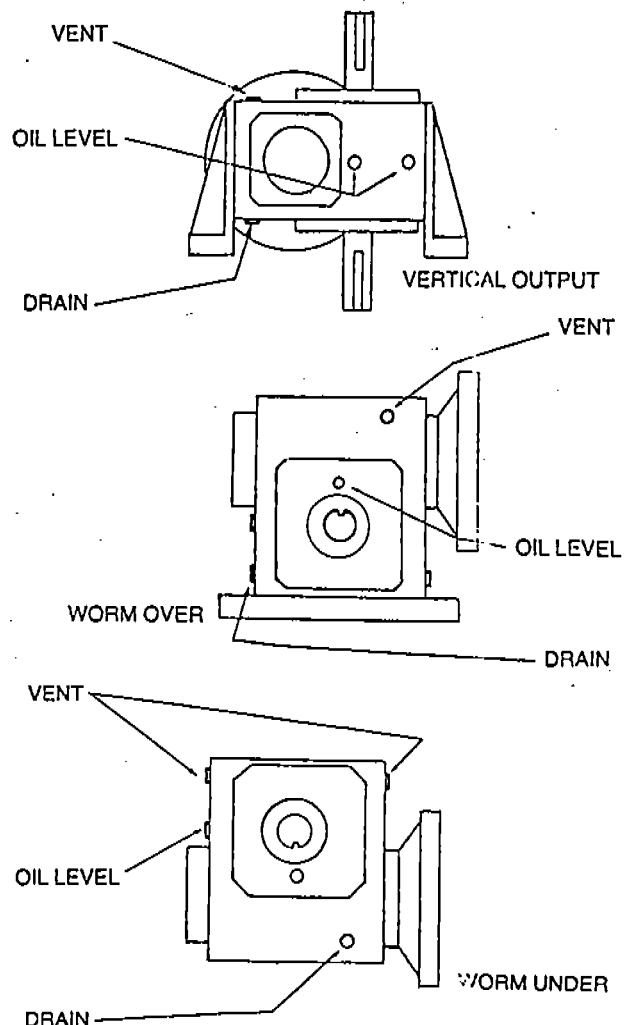

Figure 5 — Location of Vent, Oil Level, and Drain Plugs for Each Reducer Mounting Position
3. There are 6 pipe plugs and 1 vent plug on the reducer. (See Figure 6, Ref. Nos. 8, 9 & 10.) Check the positions of the vent plug and pipe plugs after the reducer is installed. The vent plug should be the uppermost (highest) of the group. If it is not, interchange the vent plug with the pipe plug which is in the uppermost position. (See Figure 5.)
- Before running a new reducer for the first time after it has been installed, check it for vent plug location and proper oil level. Figure 5 illustrates the correct vent, oil level, and drain plug locations for the three reducer mounting positions. Interchange positions of plugs on reducer, if necessary. The oil level in the reducer should be at oil level plug height. Add or drain off oil if necessary.
The speed reducer was filled with AGMA #8 gear lube oil at the factory. Check the oil level after installing the reducer, making sure it is correct for the reducer mounting position before running the reducer. (See Figure 5, on page 3. The oil level should be at oil level plug height.) If the level is low, drain the remaining oil, then refill the reducer to the correct level — do not mix brands of oil.